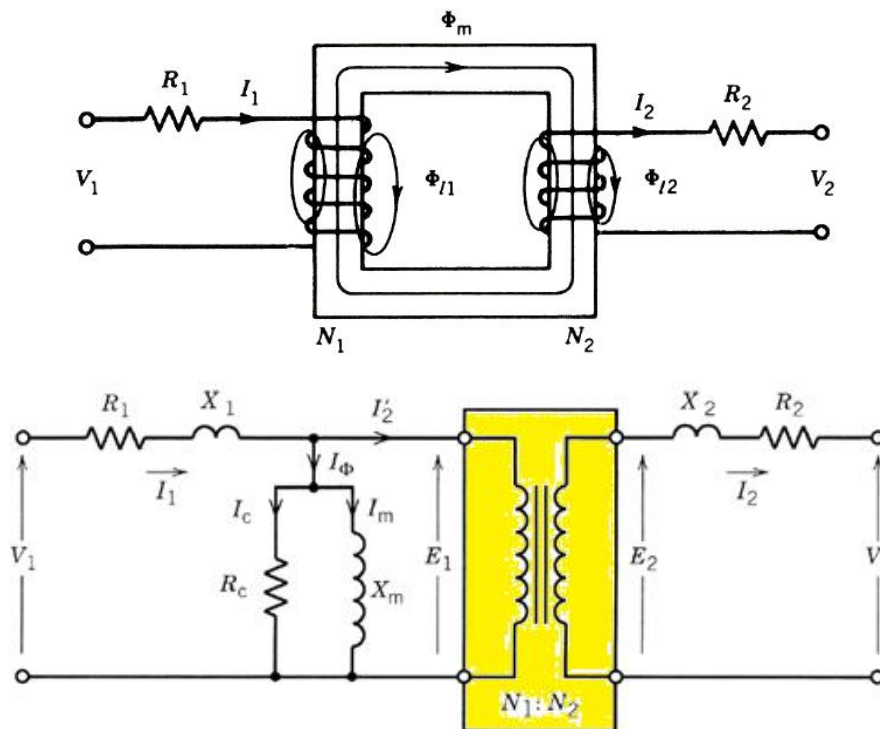
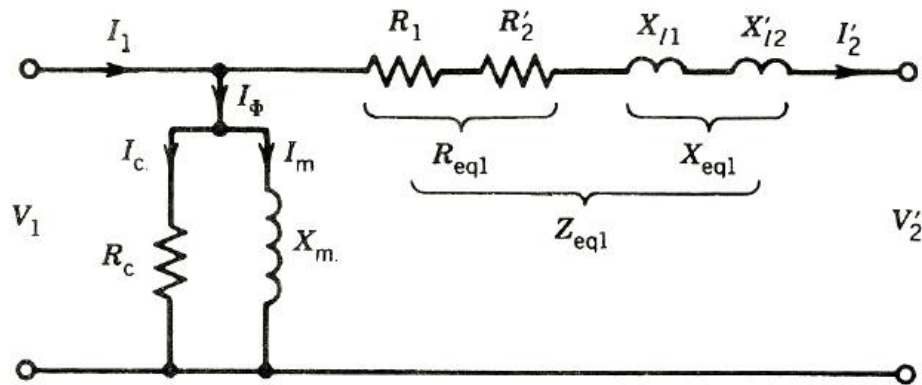

Fig. 14 Practical transformer
Fig. 16 Approximate equivalent circuit referred to primary side
**Leakage reactances:** Both primary and secondary currents produce flux. The flux  $\phi_m$  which links both the windings is the useful flux and is called mutual flux (as shown in Fig. 14). However, primary current would produce some flux  $\phi_{l1}$  which would not
The voltage drops  $I_1R_1$  and  $I_1X_{l1}$  (Fig. 14) are normally small and  $|E_1| = |V_1|$ . If this is true, then the shunt branch (composed of  $R_c$  and  $X_m$ ) can be moved to the supply terminal, as shown in Fig. 16. This approximate equivalent circuit simplifies computation of currents.